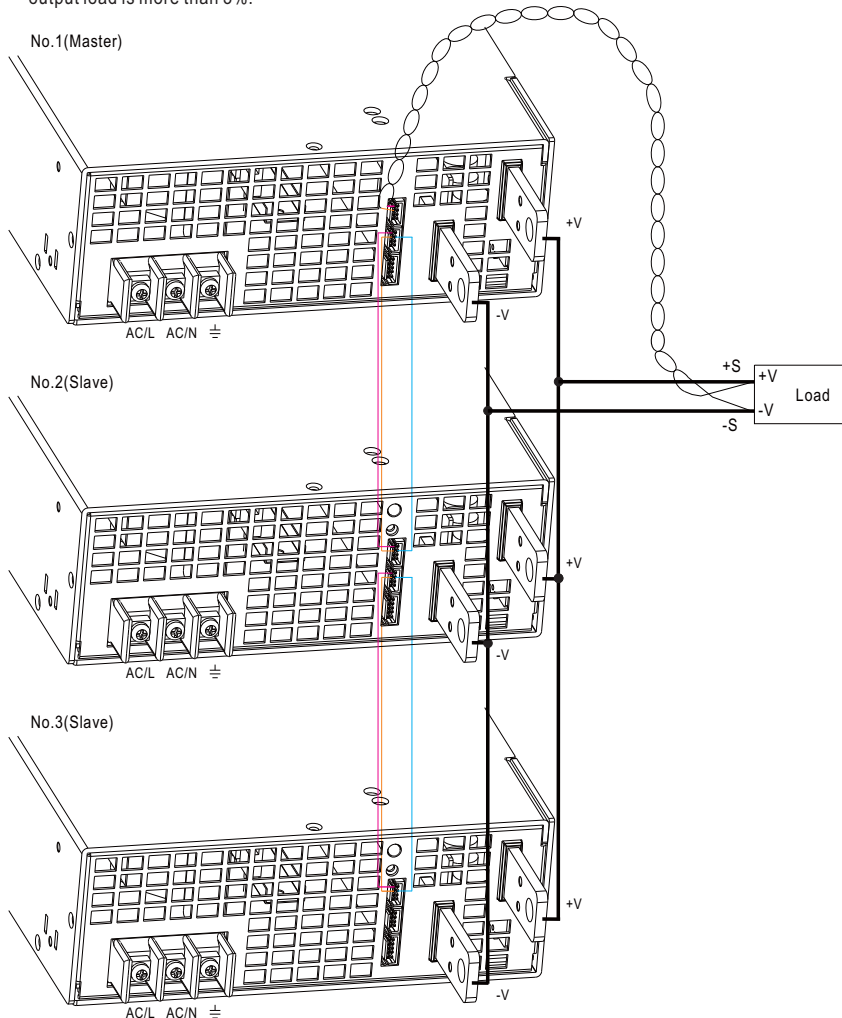

Fig. 5.2 Remove the CN3
- (1) Insert the shorting connector on CN3 that is shown in Fig 5.2, the Overload Protection Type will be "constant current limiting with delay shutdown after 5 seconds, re-power on to recover". This is the factory default.